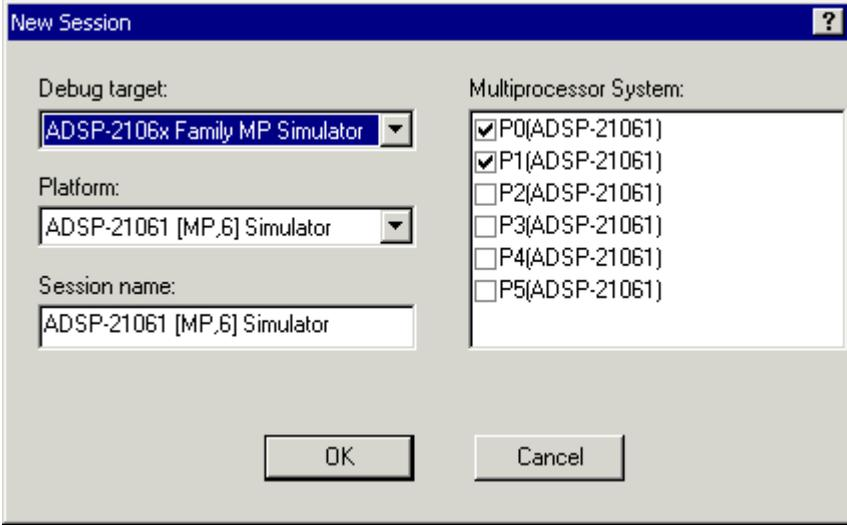

Figure 3-48. New Session Dialog Box: Setting up a Multiprocessor Simulator Session
2. From the **Session** menu, choose **New Session** to open the **New Session** dialog box, shown in Figure 3-48.
- 4. Under **Multiprocessor System**, select the check boxes next to processors **P0** and **P1**, as shown in Figure 3-48.